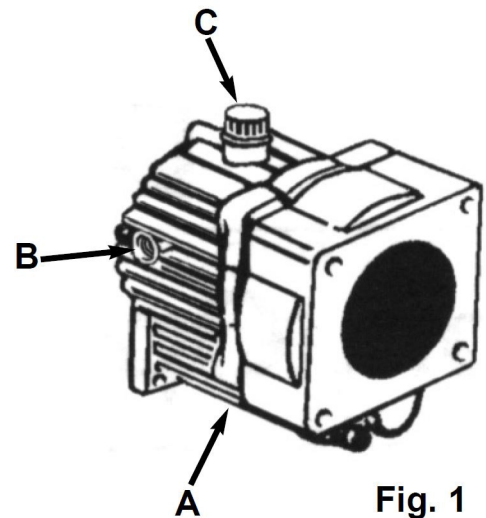

Fig. 1
1. When changing oil in the Gear Reducer, remove the drain plug (A) located on the bottom of the Reducer. (refer to Fig. 1) After the oil has completely drained, replace drain plug (A) and tighten. To fill, remove side level plug (B) and vent plug (C). (refer to Fig. 1) Fill until the gear lube is no higher than the mark on the dipstick. After proper oil level has been obtained replace plugs.